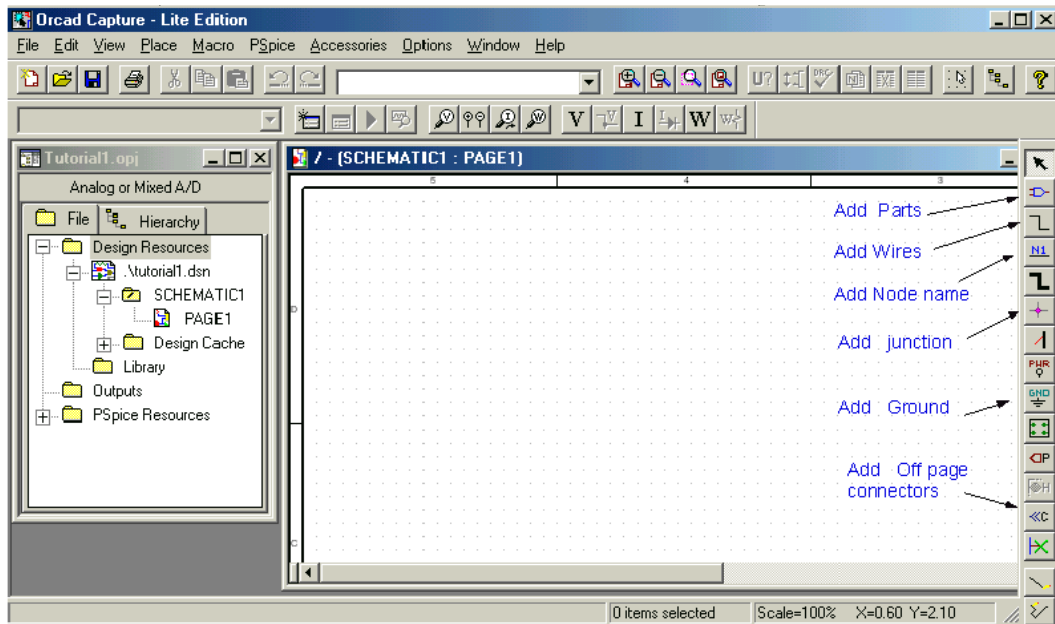

Figure 3: Design manager with schematic window and toolbars (OrCAD screen capture)
5. After placing all part, you need to place the Ground terminal by clicking on the GND icon (on the right side toolbar – see Fig. 3). When the Place Ground window opens, select GND/CAPSYM and **give it the name 0 (i.e. zero)**. Do not forget to change the name to 0, otherwise PSpice will give an error or "Floating Node". The reason is that SPICE needs a ground terminal as the reference node that has the node number or name 0 (zero).